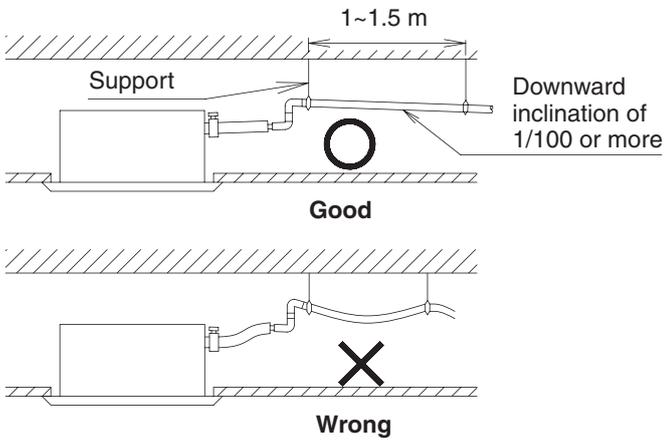

Fig. 14
- Install the drain piping as short as possible with downward inclination of 1/100 or more and without where air may stagnate. (Refer to Fig. 14) (It may cause abnormal sound such as bubbling noise.)
- Install supports at a distance of 1 to 1.5 m so that the piping may not deflect. (Refer to Fig. 14)
- Make sure to use the attached drain hose (1) and the metal clamp (2). Insert the drain hose (1) into the drain socket up to the point where the socket diameter becomes larger. Put the metal clamp (2) to the taped hose end and tighten the metal clamp (2) with torque  $1.35 \pm 0.15$  N·m ( $135 \pm 15$  N·cm).